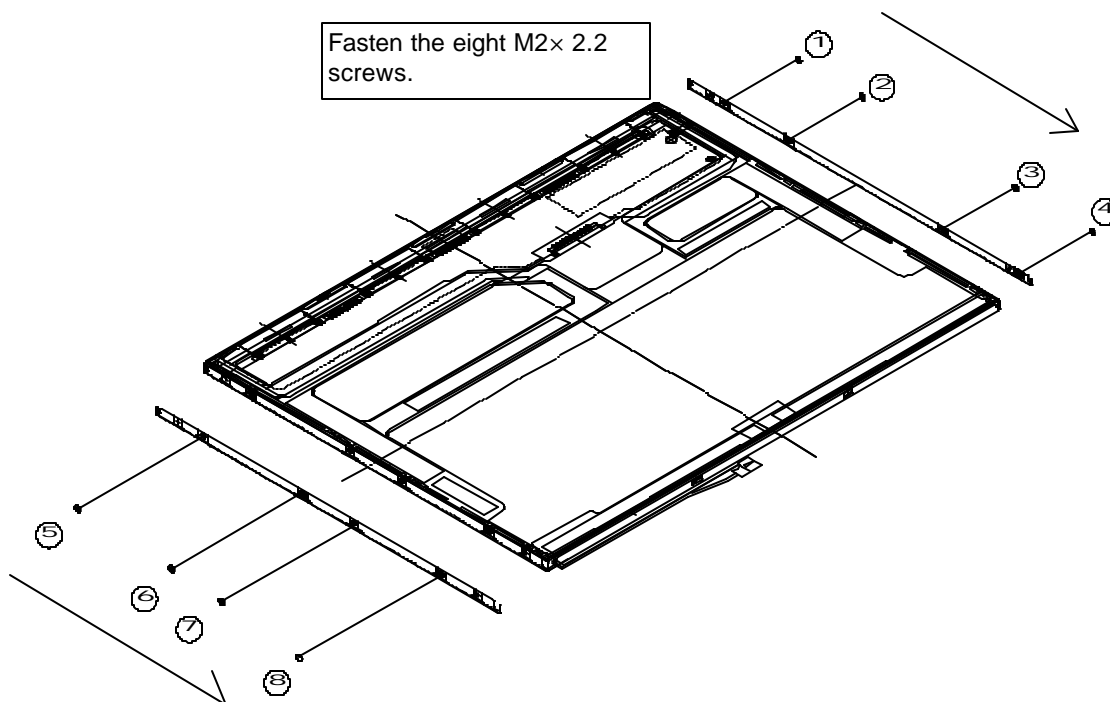

Figure 4-73 Replacing 14 Inch TMD fluorescent lamp (11)
1. Fasten four screws on the left edge in the order (5), (6), (7), and (8) shown in Figure 4-73.
2. Fasten four screws on the right edge in the order (1), (2), (3), and (4) shown in Figure 4-73.
CAUTION: Fasten the screws in the orders shown in Figure 4-73. No loose fastening is allowed.